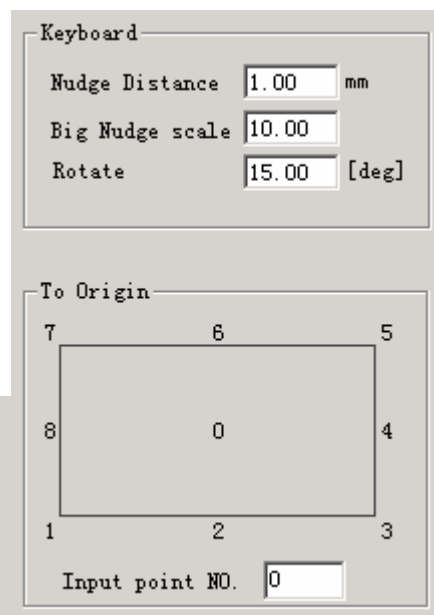

Figure 2-8 Move-Rotate
2.6.5 Move-Rotate (Figure 2-8)